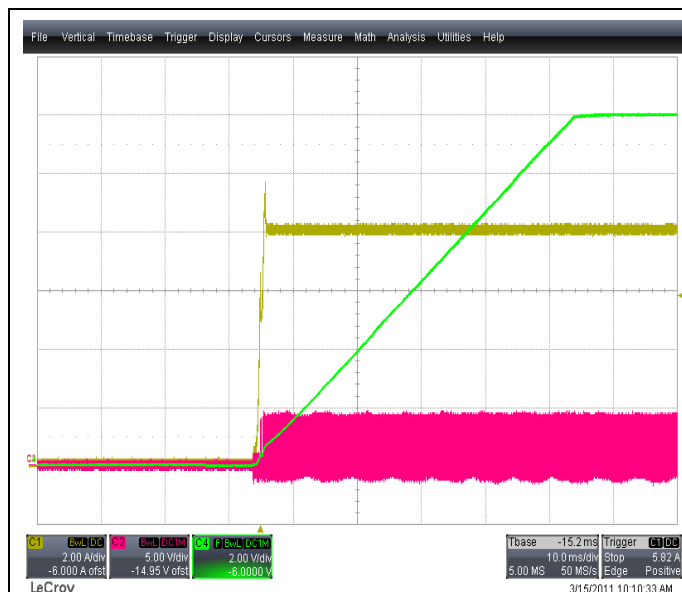
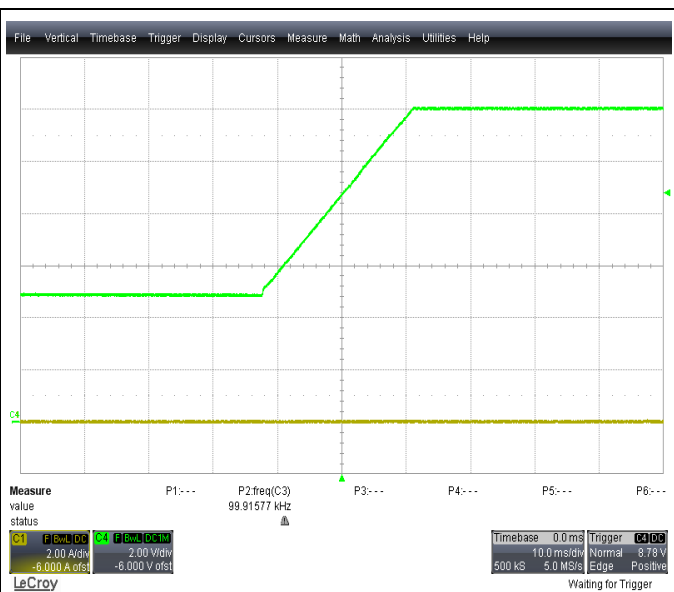

Figure 14 – Softstart ramp, 48VDC, 8A load, with synchronous rectifiers enabled during softstart.
Figure 15 - Startup with softstart from pre-charge
- A. **PS_ON Turn on Delay:** Figure 14 and Figure 15 show the startup sequence with a 0.5 second and 2 second delay respectively.